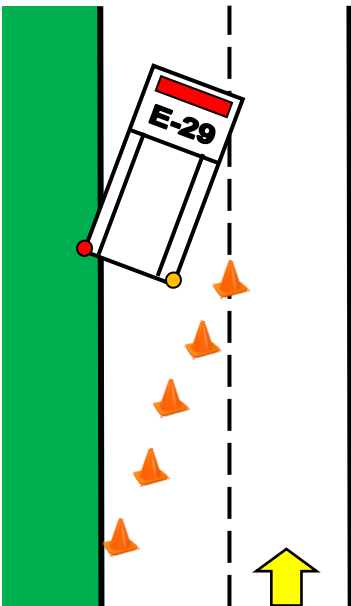

Figure 6.3
K. Figures 6.3 through 6.8 below, demonstrate various blocking techniques.
- 1) A Block to the Left as illustrated in Figure 6.3, places the Officer's side closest to the incident. Personnel should exit on the protected side.